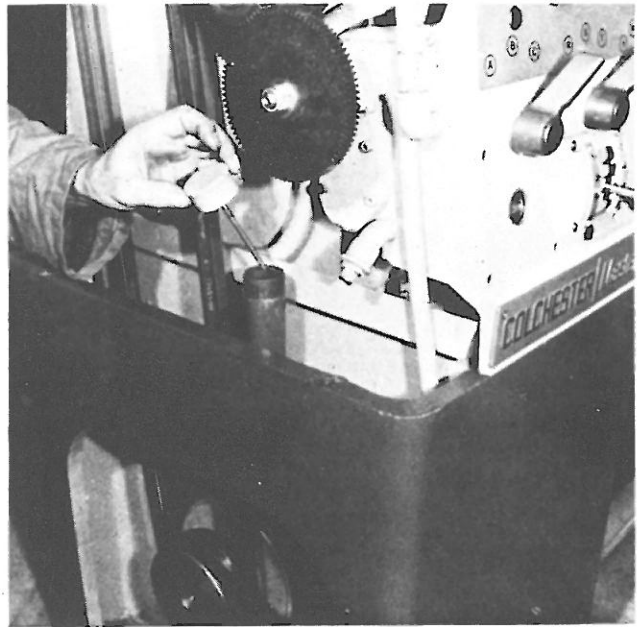

Fig. 25
All gears are splash lubricated from an integral oil bath. An oil level sight window is furnished in the front face of gearbox. Top-up or refill gearbox with Shell Tellus Oil 27 through filler elbow (F). See Fig. 25.